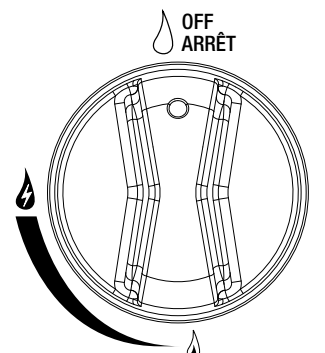

Figure 2
- Make sure control knobs are in the "OFF" position (Figure 2).
3. All control knobs must be in the 🔥 OFF position (Figure 2).